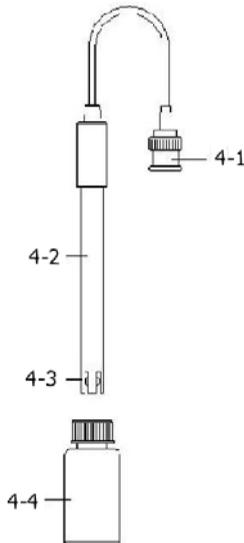

Fig. 2
" Probe Plug " ( 4-1, Fig. 2 ) into the " pH Socket/BNC
- 4) Hold the " Electrode Handle " ( 4-2, Fig. 2 ) by hand
and let the " Sensing head " ( 4-3, Fig. 2 ) immersed
**When not use the Electrode, it should immerse the " Electrode sensing head " ( 4-3, Fig. 2 ) into the " Protection bottle " ( 4-4, Fig. 2 )**
- 1) Prepare the pH Electrode ( optional ), install the " Probe Plug " ( 4-1, Fig. 2 ) into the " pH Socket/BNC Socket " ( 3-16, Fig. 1 ).
- 4) Hold the " Electrode Handle " ( 4-2, Fig. 2 ) by hand and let the " Sensing head " ( 4-3, Fig. 2 ) immersed wholly into the measured solution and little shake the probe. Display will show the pH value.